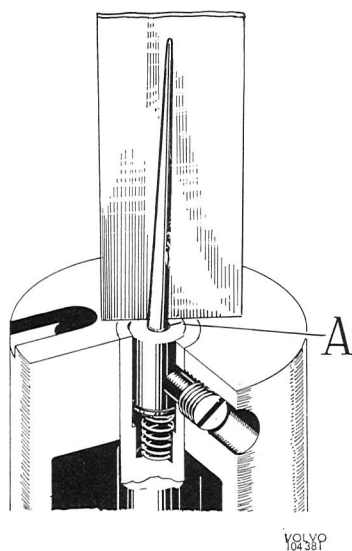

Fig. 2-137. Installing metering needle
- The needle should incline in the direction of the carburetor air cleaner flange.** This is obtained when the mark A, Fig. 2-137 on the sleeve points from the holes in the air valve. The mark shows where the pin, which presses over the needle, is located. The sleeve should lie level with the valve, see Fig. 2-137.